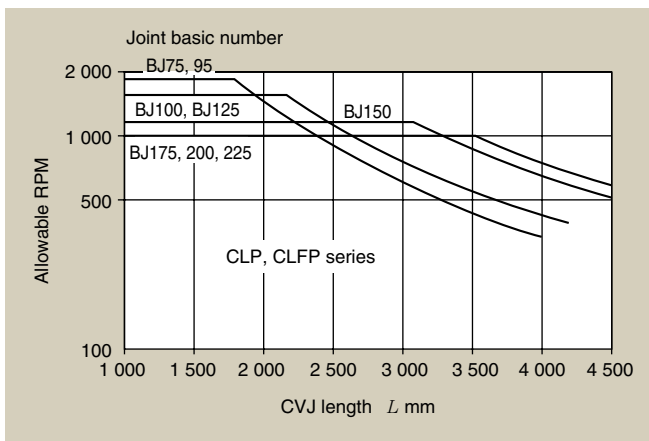

Fig.13 Allowance RPM of shaft
2. Depending on the shaft length, the working number of revolutions of joint will be limited. Check the allowable RPM of the intended shaft against the data in **Fig. 13**.